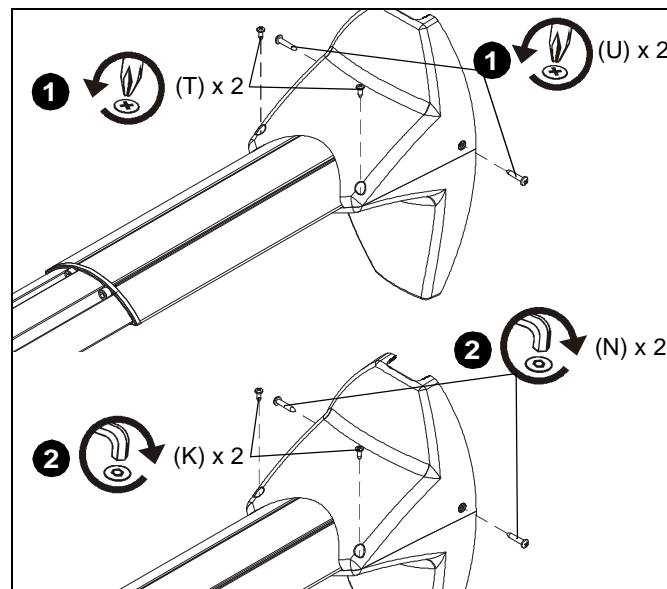

Figure 26
1. Remove two #8 x 1/2" Phillips screws (T) and two #10 x 1" Phillips screws (U) from top and lower covers. (See Figure 26)
2. Install two 8-32 x 1/2" button head security screws (K) and two 10-24 x 1" button head security screws (N) into top and lower covers. (See Figure 26)